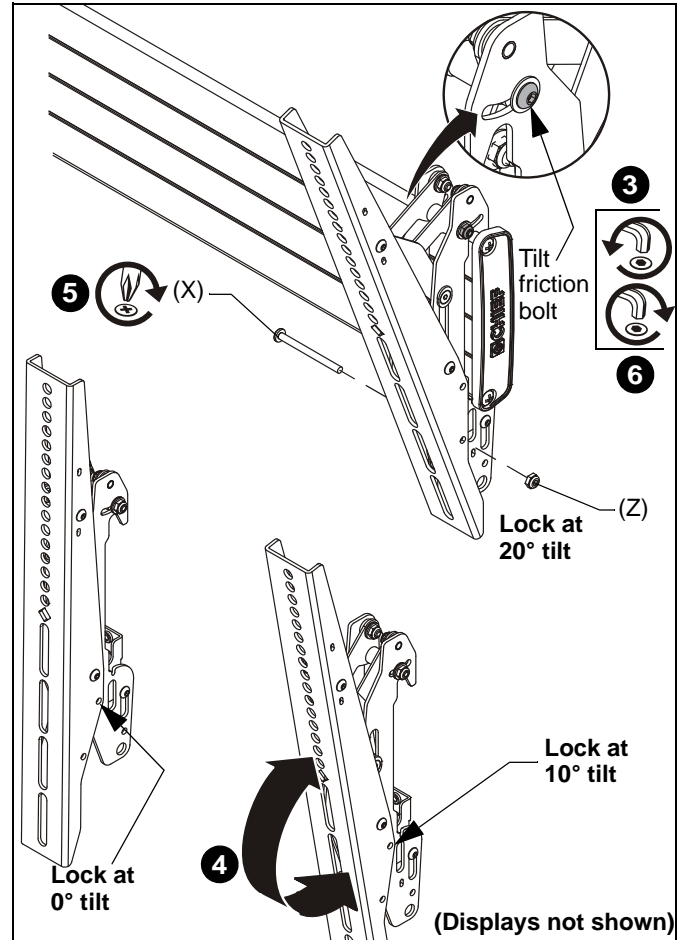

**Figure 9**
1. Turn the roll adjustment bolt(s) in the direction necessary for the desired roll. (See Figure 9)